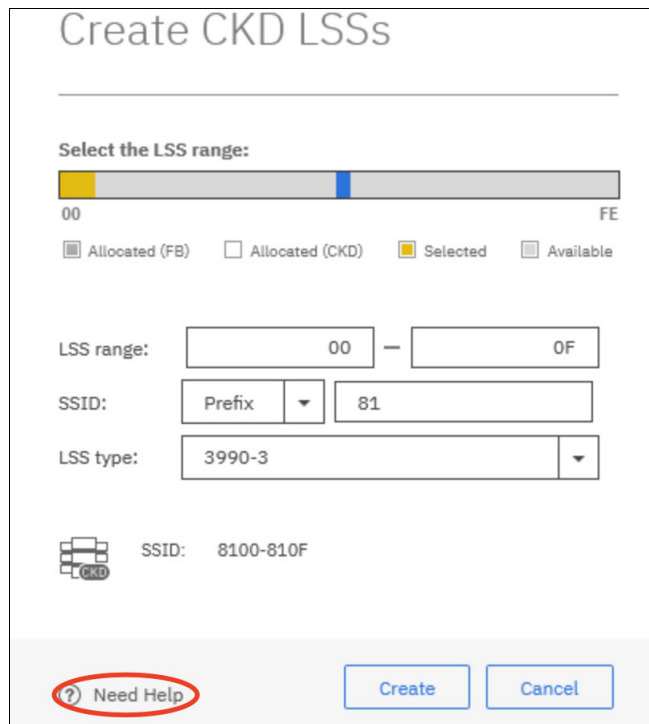

Figure 9-74 Defining CKD LSSs
4. The Create CKD LSSs window opens, as shown in Figure 9-74. Enter the required information. After you enter the values for the LSS range, subsystem identifier (SSID) prefix, and LSS type, click **Create**. The Need Help icon shows information about how the unique SSID for each LSS is determined based on the SSID prefix that is provided.